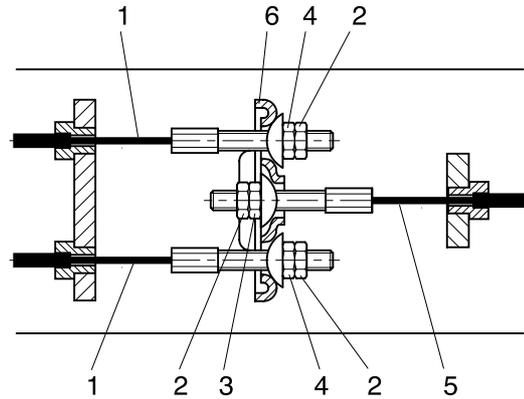
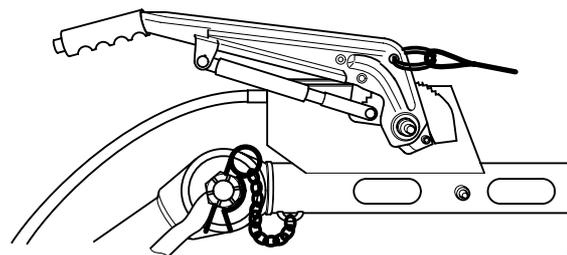

Fig. 5.7 Brake cable arrangement
Fig. 5.8 Hand brake lever downward - brake not operated
Check the position of the equalizer (Fig. 5.7, 6) with the parking brake actuated.
Check all lock nuts (Fig. 5.7, 2).
1. The hand brake lever in the downward position (Fig. 5.8), loosen the lock nuts (Fig. 5.7, 2). Turn adjusting nuts and brake cable nuts (Fig. 5.7, 4) clockwise until there is no slack in the brake mechanism.
The equalizer (Fig. 5.7, 6) must remain perpendicular to main brake cable (Fig. 5.7, 5).
2. Apply the hand brake lever several times and repeat the adjustment. Tighten the nuts with their lock nuts (Fig. 5.7, 2). Remove the jack and the blocks.